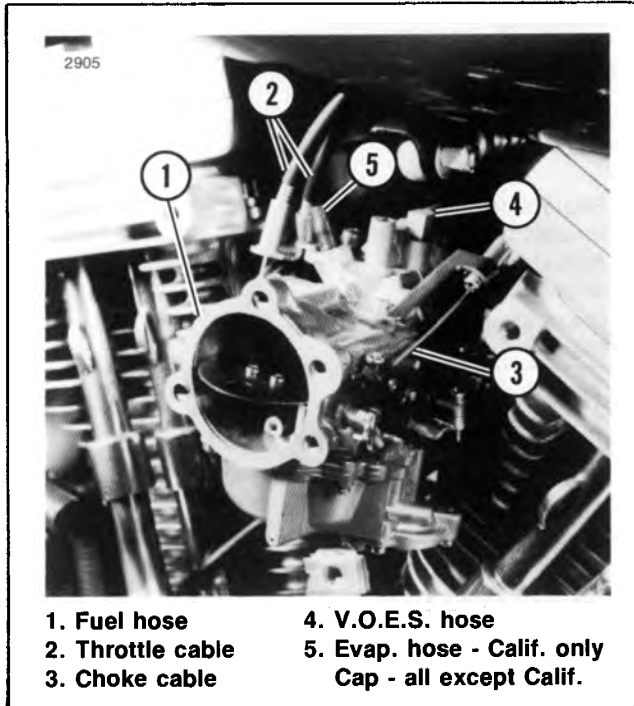

Figure 4-11. Carburetor Mounting
2. See Figure 4-11. Turn the fuel valve off. Disconnect the fuel and V.O.E.S. hoses (1 and 4), throttle cables (2) and choke cable (3) from the carburetor. Disconnect evap hose (California models) or remove cap (5).
1. Fasten the carburetor and insulator block to intake manifold using the lockwashers and bolts (44). Tighten the bolts alternately to 10-14 ft-lbs torque.
2. See Figure 4-11. Connect the fuel and V.O.E.S. hoses (1 and 4), throttle cables (2) and choke cable (3) to the carburetor. Connect evap. hose (California models) or install cap (5).